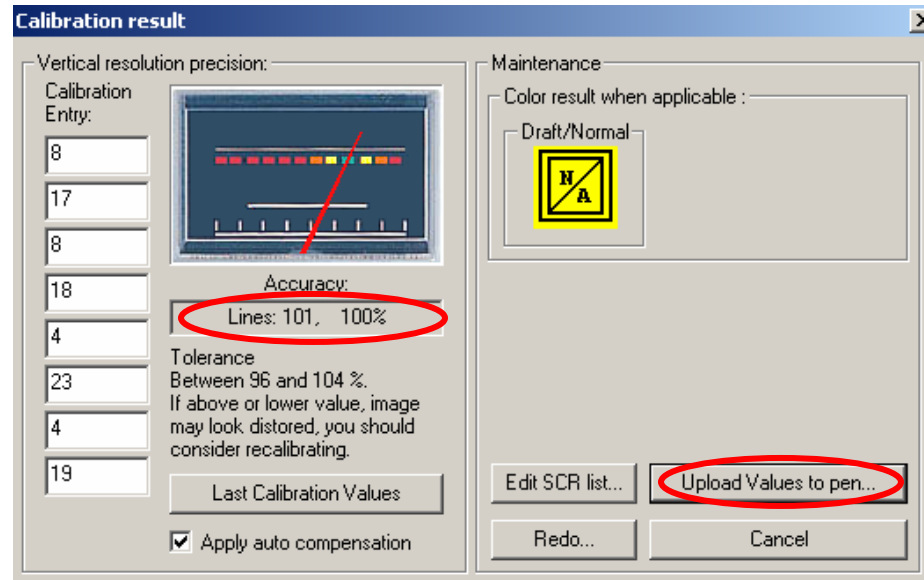

Fig 6
- The **Calibration result** dialog window will appear. You should see the roller calibration values to the left. If the accuracy is within 96-104%, you have successfully calibrated the rollers! (Fig 6).